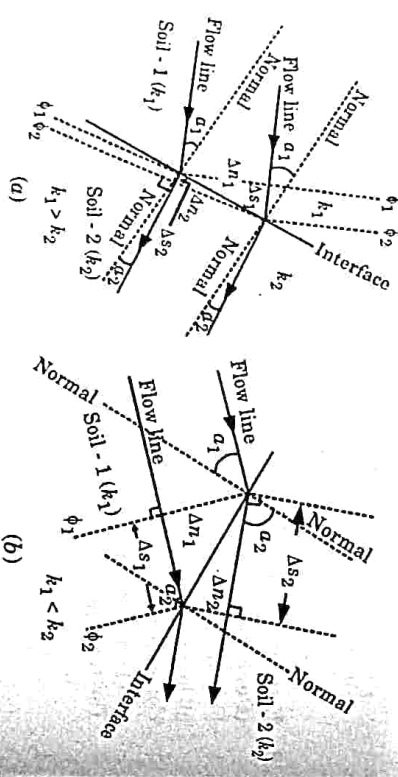

Fig. 2.11.1. Flownet in a non-homogeneous soil.
1. Fig. 2.11.1(a) shows the case when the soil (1) has permeability more than the soil (2).